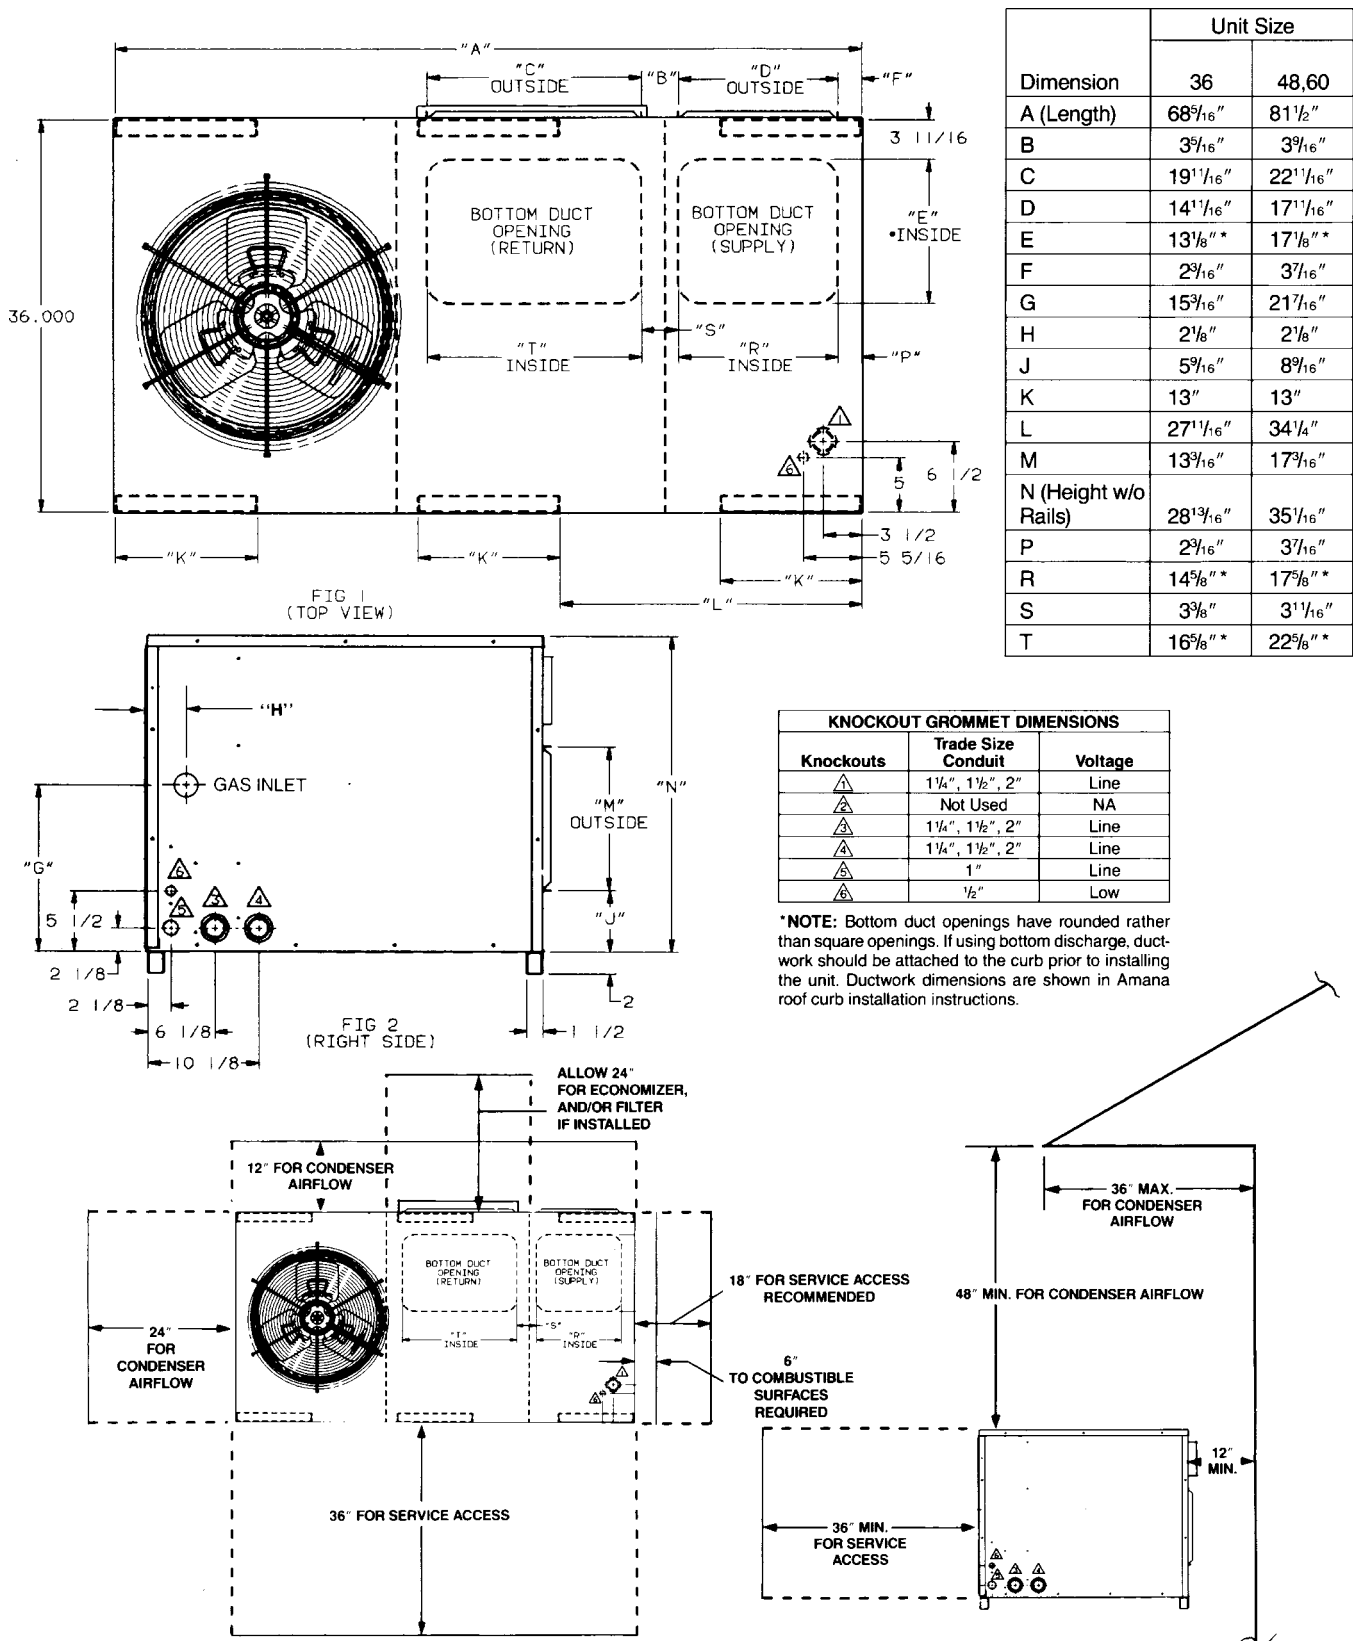

Figure 1
- Allow clearances from the enclosure as shown in Figure 1 for fire protection, proper operation, and service access. These clearances must be permanently maintained.